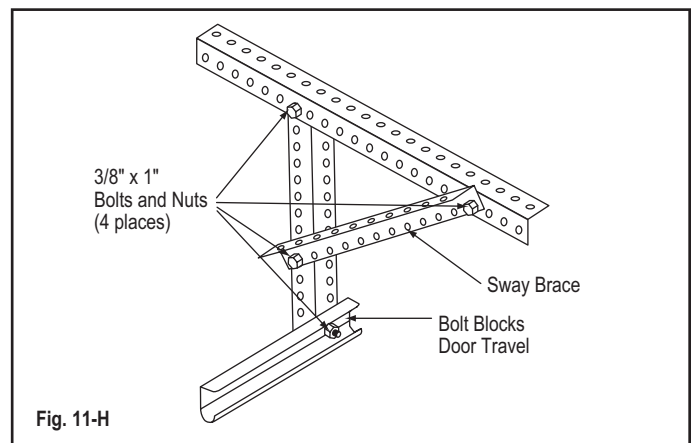

Fig. 11-H
**Step 11-8, Continued:** Adjust the position of the tracks if the squareness distances are not within 1/2" of each other. Horizontal track can be out of level up to 1" from front jamb to rear track hanger. (Fig. 11-I)